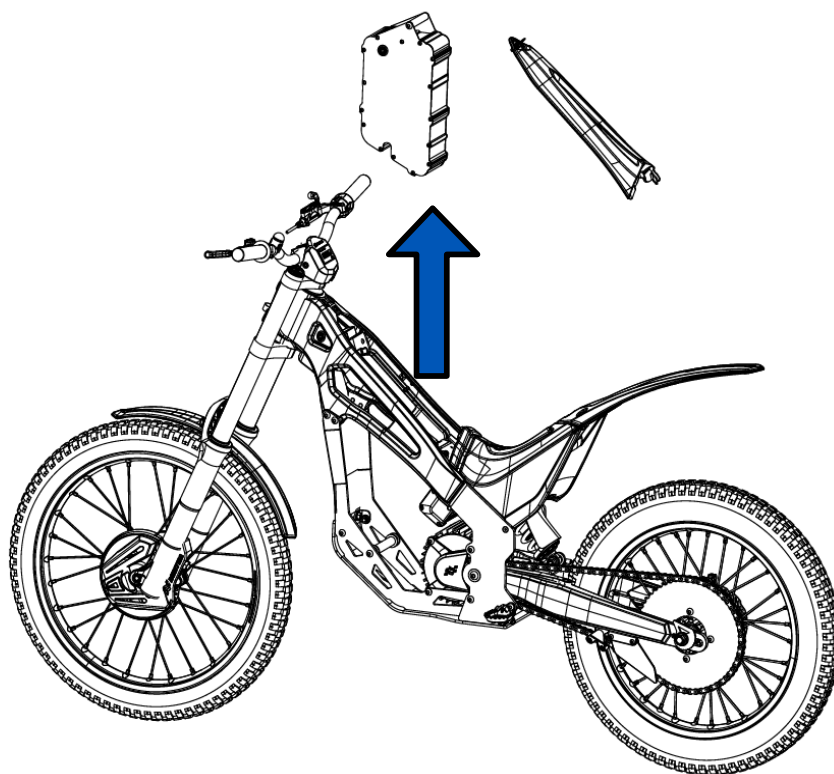

Fig. 38
- 6- Then remove the battery from the motorcycle (Figure 38).
- 3- Remove the top cover of the motorcycle (Figure 38).